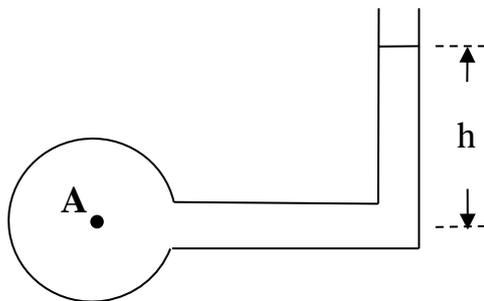

Fig.1
1. **Pizeometric tube:** The piezometric tube is one of the simplest measuring instruments. It is a vertical tube open from the top and connected to the tube or container containing the compressed liquid. When pizeometric tube connect to the vessel as shown in Fig. 1, the liquid will rise by an amount of h under effect the pressure p_A in the tube and the pressure value